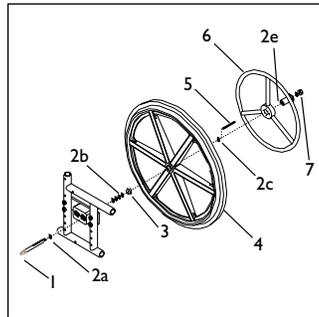

Fig. 7
**I. Drive Side Assembly (Fig. 7)**
- Add one washer (2a) to axle (1).
- For Quickie & Zippie Series: Add four washers (2b) to axle. For Breezy Series: Move washers (2c) as spacers for outer handrim (6) and wheel assembly (4). Add or remove washers to adjust spacing.
- Add spacer (3) to axle.
- Add wheel (4) to axle.
- Insert key (5) into keyway on axle (1).
- Slide handrim assembly (6) on to axle.
- Add washer (2e) and nut (7).